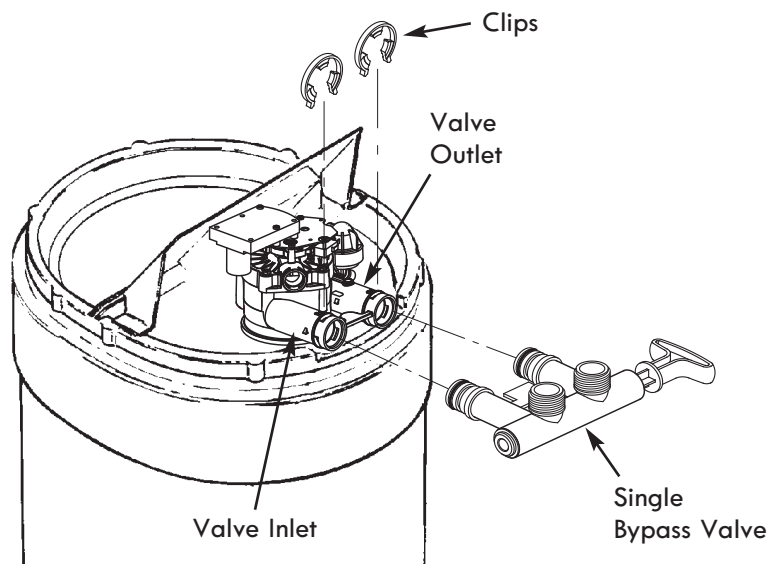
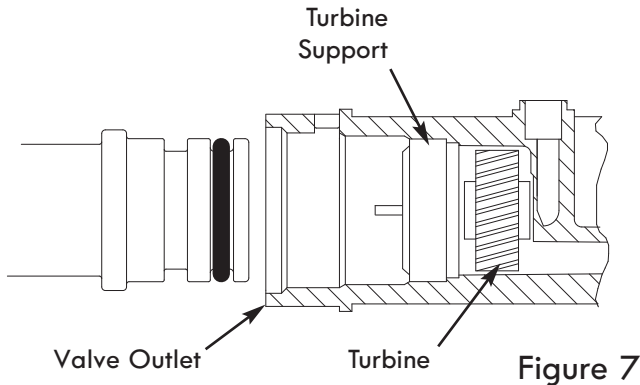
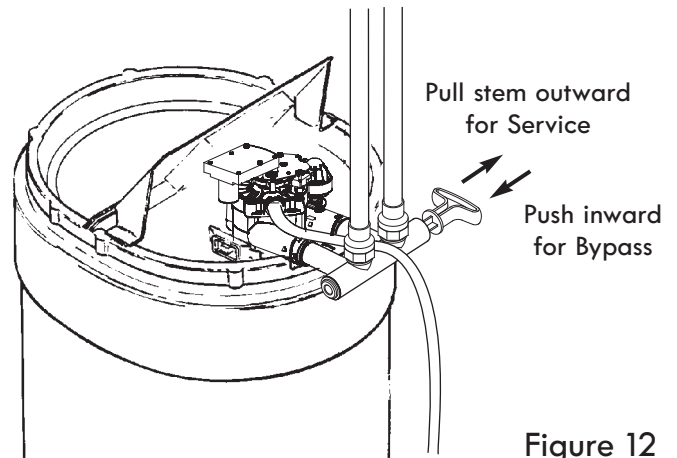
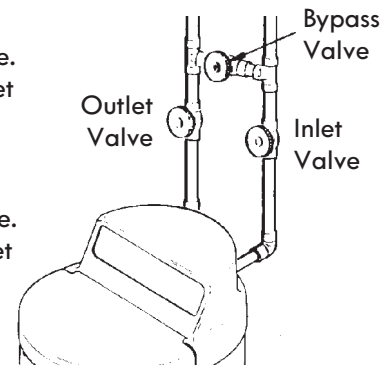

Figure 6
Figure 7
Figure 12
Figure 13
5. Visually check and remove any foreign materials from the valve inlet and outlet ports (see Fig. 6). Carefully remove the two large plastic clips (you will use them). Check to be sure the turbine and support are firmly in place (see Fig. 7).
NOTE: Always install either a single bypass valve (provided), as shown in Figure 6, or, if desired, parts for a 3 valve bypass system (not included) can be purchased and assembled, as shown in Figure 13.
2. Place bypass valve(s) in "bypass" position (see Figures 12 & 13). On a single valve, slide the stem inward to bypass. On a 3-valve bypass, close the inlet and outlet valves and open the bypass valve.
If you installed a 3-valve bypass system (Fig. 13), electrical continuity will be maintained. If you installed the non-metallic bypass valve (Fig. 12), restore the ground as follows: